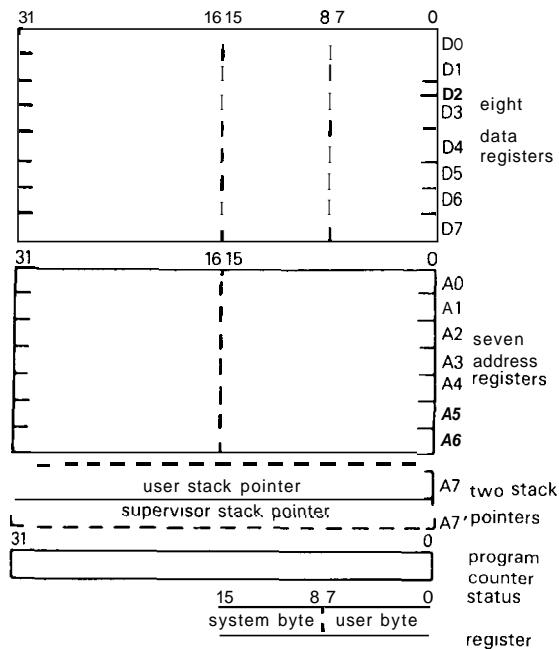

Figure 11.1. 68000/8 registers.
Figure 11.1 shows the internal registers of the 68000 (we will use "68000" to refer to features that are common to the 68000 and 68008). There are 8 *data registers* and 7 *address registers*, all of which are completely general-purpose; this contrasts with the 808618, in which AX (AL) must be used for I/O, DX for port addressing, etc. The *data registers* can hold bytes (8 bits), "words" (16 bits), or "longs" (32 bits), with the data type in any given operation specified in the assembly-language instruction itself (see below). You do your computation and byte-pushing in the data registers.